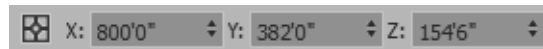

Figure 3–41
19. In the **Front** viewport, use  (Zoom Region) and create a rectangular window around the building to zoom into the building. Verify that the **Standard** shading label displays. Select the **[Wireframe] Per View** label and select **Default Shading**. Then, select **Default Shading** again and select **Edged Faces** to define the windows and doors. The building should display similar to that shown in Figure 3–42.